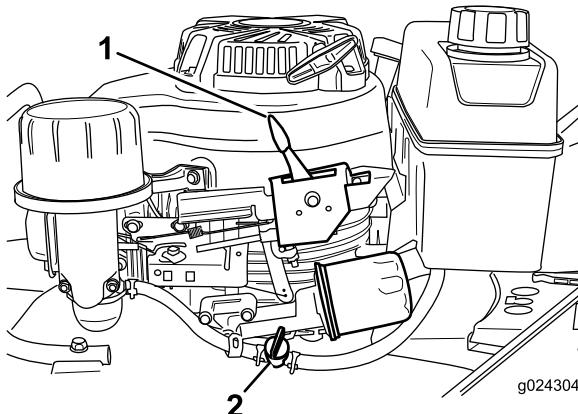

Figure 14
2. Open the fuel valve (Figure 14).
3. Move the throttle-control lever (Figure 14) to the CHOKE position.
Release the blade-control bar and move the throttle-control lever (Figure 14) to the STOP position.
**Note:** Close the fuel valve (Figure 14) if you will not be starting the engine soon afterward.